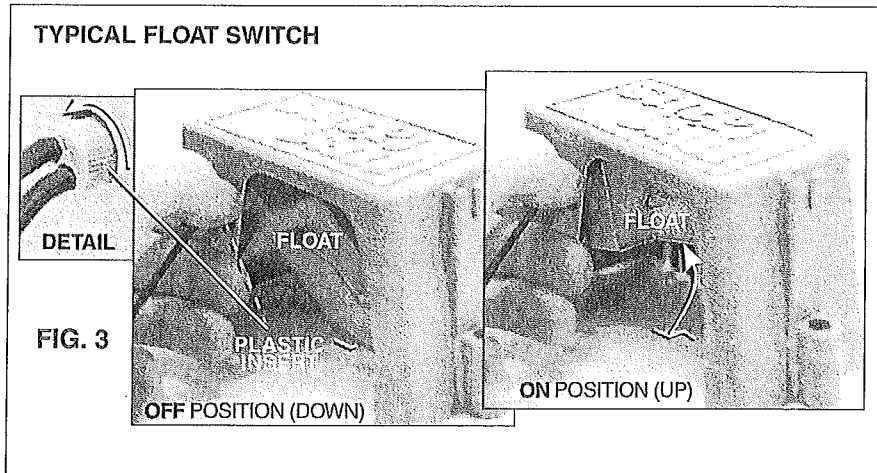

FIG. 3
If applicable, the autofloat switch should also be checked often for proper operation. Lift the float by turning the plastic insert, where the wires enter the housing, 1/4 turn counter clockwise (Fig. 3).
2. Remove the starboard (stbd) jump seat (FIG. 1). Rotate it 90° counter-clockwise and slide the lounge support insert into the *port* side opening of the motor box pad (FIG 3).